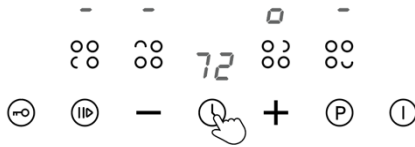

Fig. 1
5. To change total power setting, touch the zone key (Fig.1) to select new total power setting. The timer display (e.g.28) will change to new indication according to Fig.1: